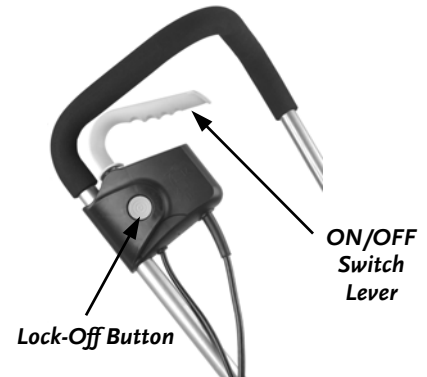

Figure 2
- Starting, stopping, and restarting an electric Motor repeatedly within a few seconds can generate a great deal of heat and damage the Motor. To protect the life of your DR Corded Tiller, always wait at least five (5) seconds after stopping before restarting the Tiller.
3. Push the Lock-Off Button IN (**Figure 2**) with your left thumb and squeeze and hold the ON/OFF Switch Lever (**Figure 2**) up against the Handlebar with your right fingers. Once the Motor starts you can remove your thumb from the Lock-Off Button. If the Tiller does not start, make sure you plugged the power cord into a live 120V outlet (simply use a lamp to check the power outlet and cord) and firmly plugged the power cord into the Tiller power receptacle.